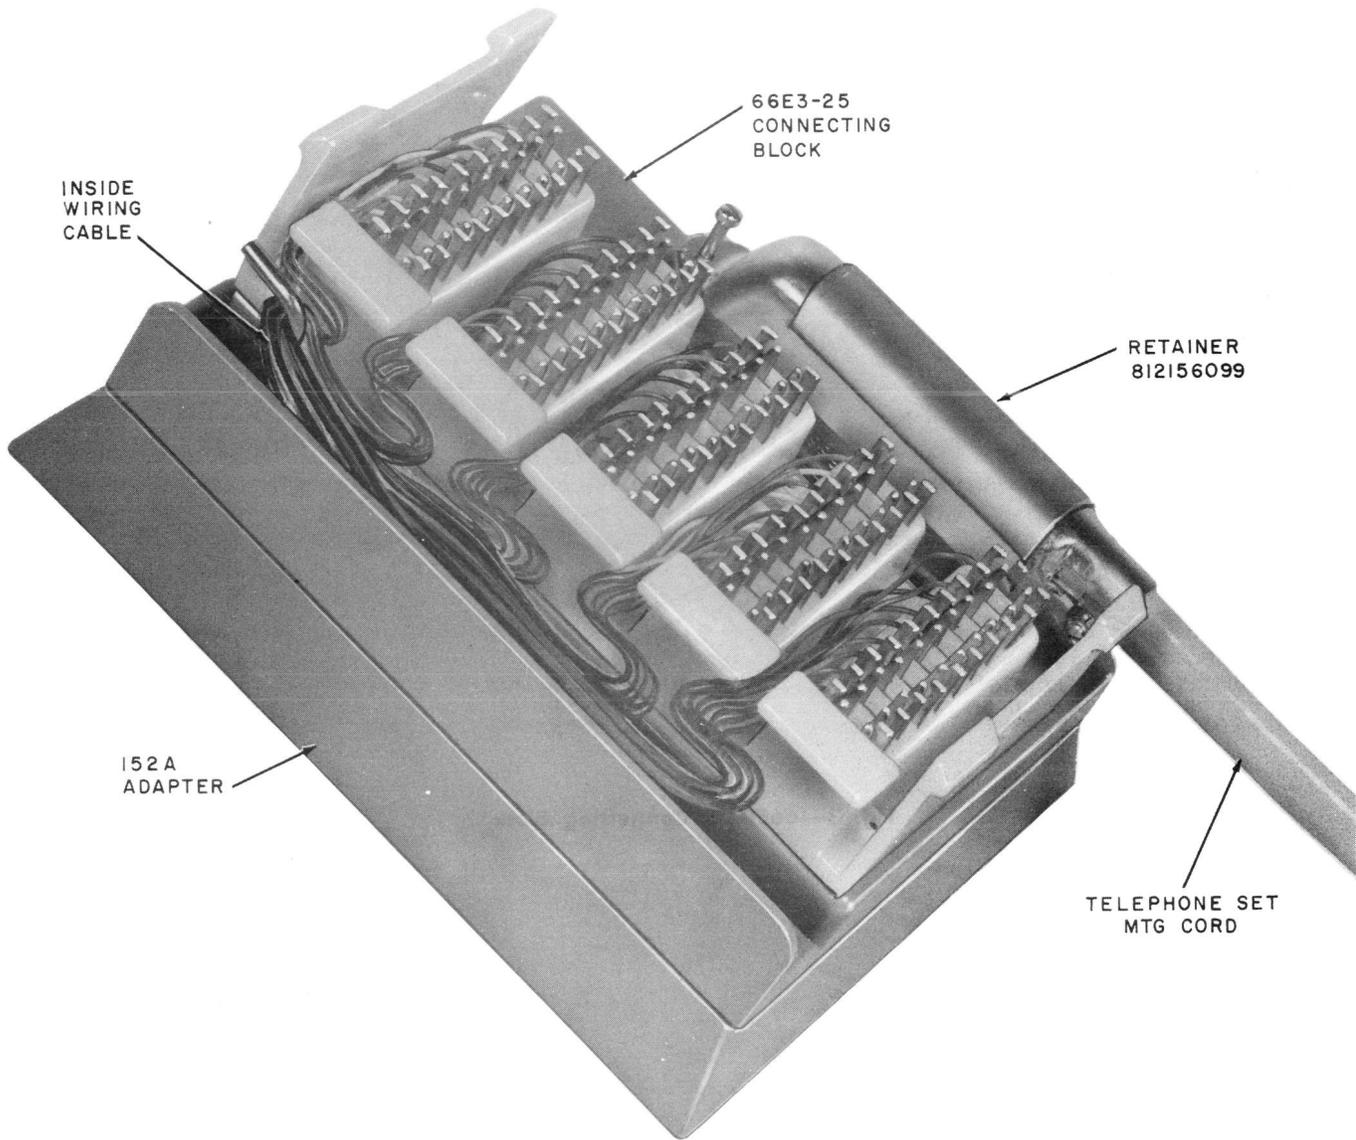

Fig. 4—66E3-25 Connecting Block Installed on 152A Mounting Adapter
**3.02** Install the 152A adapter on electrical outlet box or overfloor duct and mount the 66E3-25 connecting block to the adapter, using the mounting hardware provided (Fig. 4). Terminate the cable conductors on the connecting block pins (Fig. 6), connect station telephone set to connector assembly, and install snap-on cover.